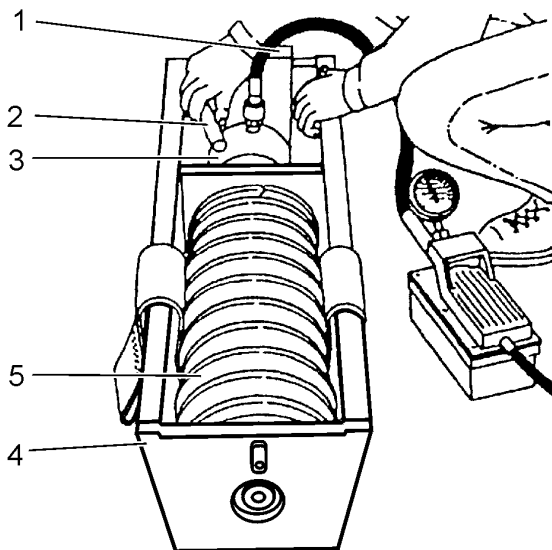

Fig. 14.53. Spring Disassembling
3. Compress spring to allow long spacers to be removed. Position short spacer (2, Fig. 14.53) at each corner of coffin (4) and let off of ram (3). Remove remaining blocking (1). Compress spring (5) to allow short spacers (2) to be removed. Let off ram (3) and allow spring (5) to fully decompress. Remove ram from coffin.